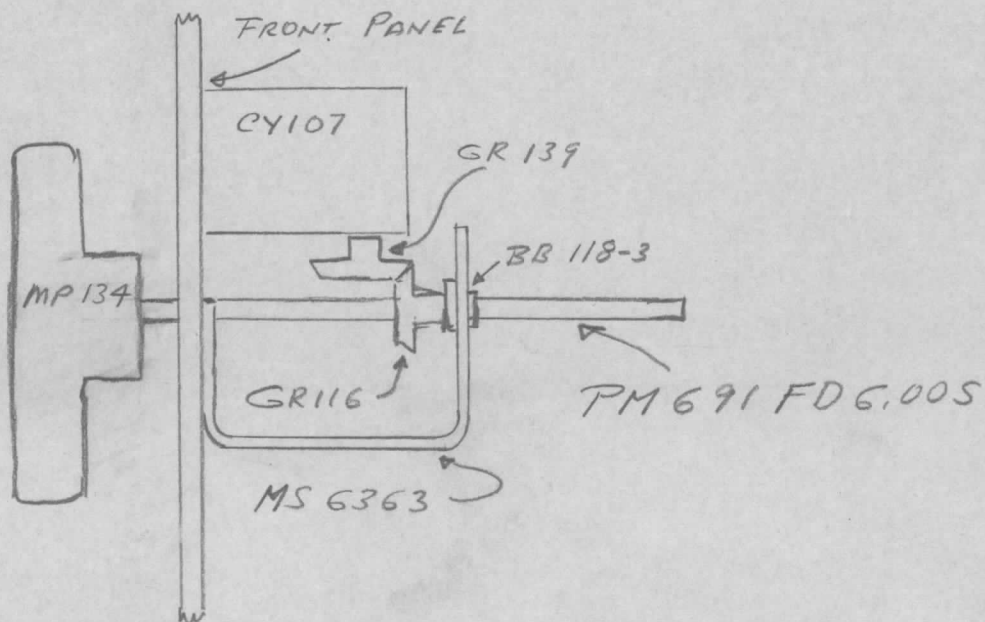

FIGURE 3
10. Mount the two counters (item 6) and the two bearing plates (item 21) on the new front panel (item 10) using (items 11, 23 and 30) hardware.
11. Assemble both control knob, shafts and gears as shown in figure 3.